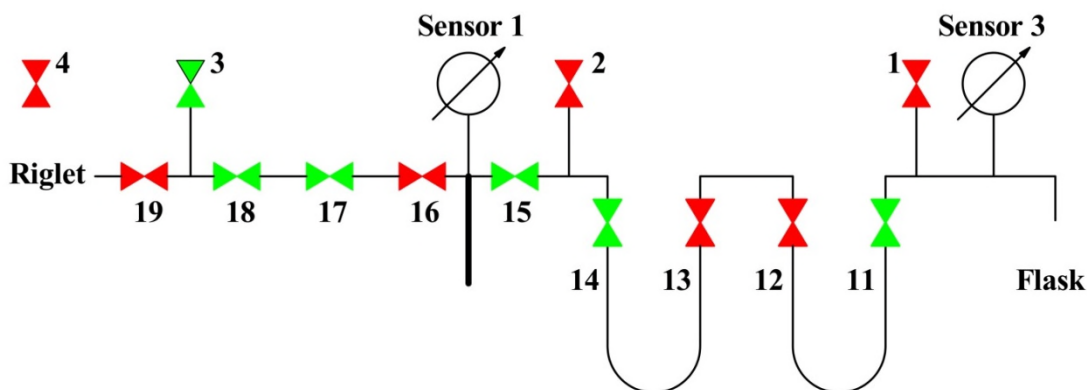

Fig. 4 Opening state of the valves in step 6, i.e. the first measurement of the CO_2 , green = open, red = closed
- 6) When sensor 1 is close to the offset value close valve 12. Pump until sensor 2 $< 4 \cdot 10^{-3}$ mbar, then close valve 16 and 13 (status of valves as given in Fig. 4)